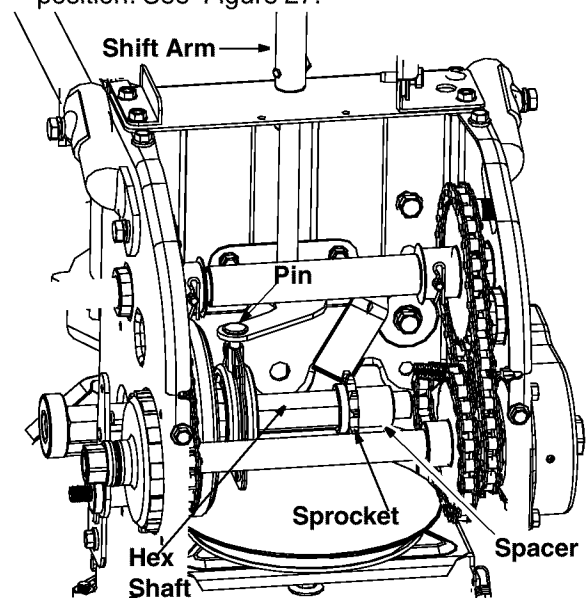

Figure 27
- Insert the pin from the shift arm assembly into the friction wheel assembly and hold assembly in position. See Figure 27.
- Insert the hex shaft through the sprocket and the spacer. See Figure 27. Make certain that chain engages both the large and the small sprocket.
NOTE: If the sprocket fell from the snow thrower while removing the hex shaft, place the sprocket on the hex shaft. Position the hex hub of the sprocket toward the friction wheel when sliding the sprocket on to the hex shaft. See Figure 27.